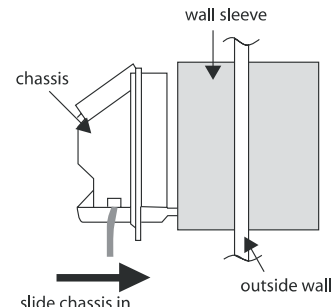

Figure 15. Slide unit chassis into the wall sleeve
4. Slide the chassis into the wall sleeve until the chassis flanges contact the front edge of the wall sleeve. See Figure 15.